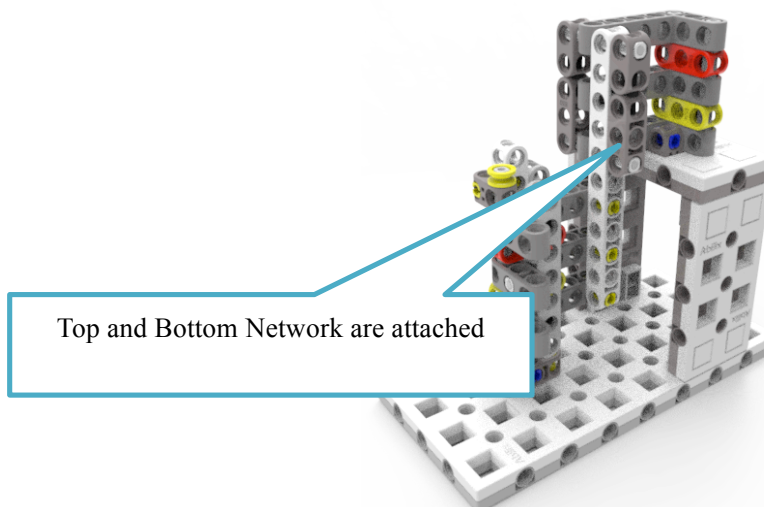

Figure 3-1-2 Network Upgrading Finished Status
3.1.2 By rotating the handle, Bottom Network is dis-attached with Single Pole and attached with Top Network (as shown in Figure 3-1-2, 40 points).